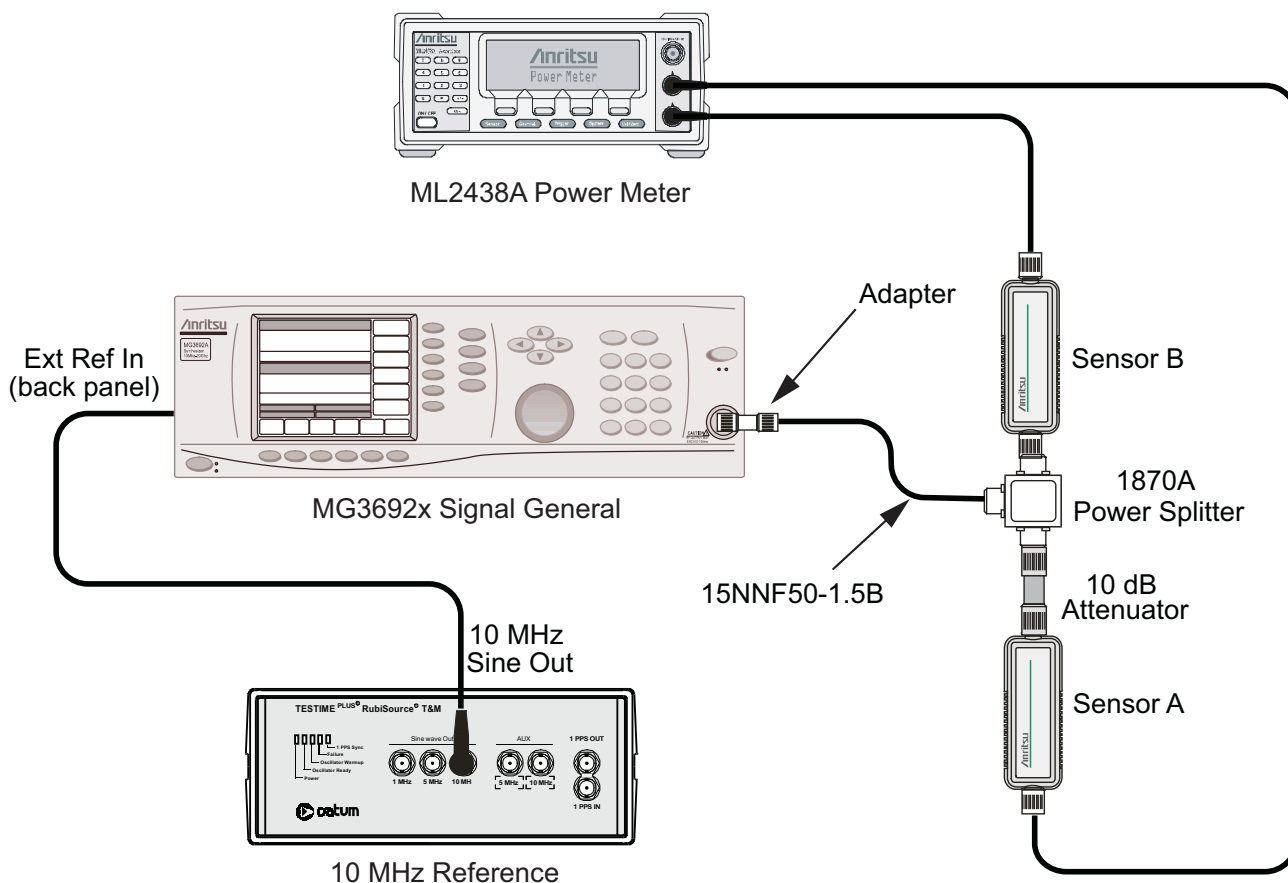

Figure 2-2. 50 MHz Amplitude Accuracy Verification for Models with N Connectors
2. Connect the equipment as shown in Figure 2-2 on page 2-14.
1. Connect the equipment as shown in Figure 2-2 on page 2-14.